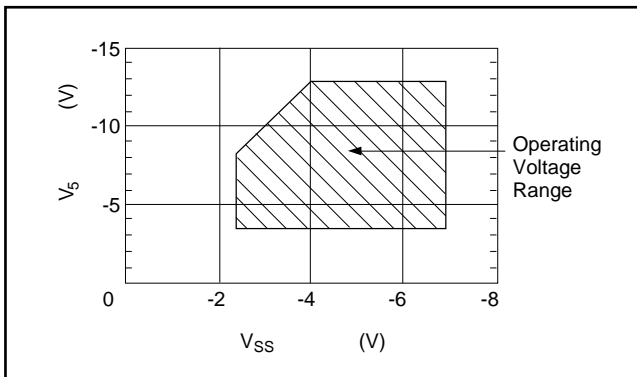

Figure 5.4
- *10. Operating voltage ranges of V_{SS} and V_5 (see Figure 5.4).